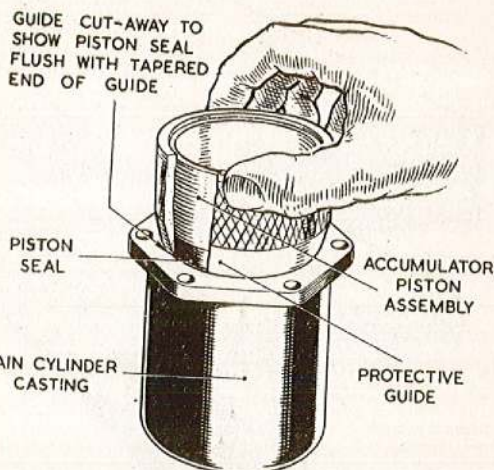

FIG.6 USE OF PROTECTIVE GUIDE FOR INSERTION OF PISTON IN MAIN BORE
4. Invert the cylinder casting and place the tapered end of the guide into the cylinder bore, push the piston assembly through the guide into the cylinder bore and remove the guide (fig. 6).